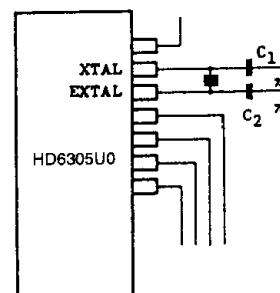

Figure 34 Design of Oscillation Circuit Board
- (1) Locate crystal, ceramic resonator, and load capacity C_1 and C_2 as near the LSI as possible. (Induction of noise from outside to the XTAL and EXTAL pins may cause trouble in oscillation.)
- (2) Wire the signal lines to the neighboring XTAL and EXTAL pins as far apart as possible.
- (3) Board design of situating signal lines or power supply lines near the oscillator circuit as shown as Figure 35, should not be used because of trouble in oscillation by induction. The resistor between the XTAL and EXTAL, and pins close to them should be 10M Ω or more. The circuit in Fig. 34 is an example of good board design.